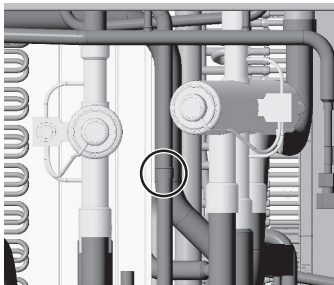

Figure 5
(4) Remove the braze from the area between four-way valves 21S4a and 21S4b. (Figure 5)